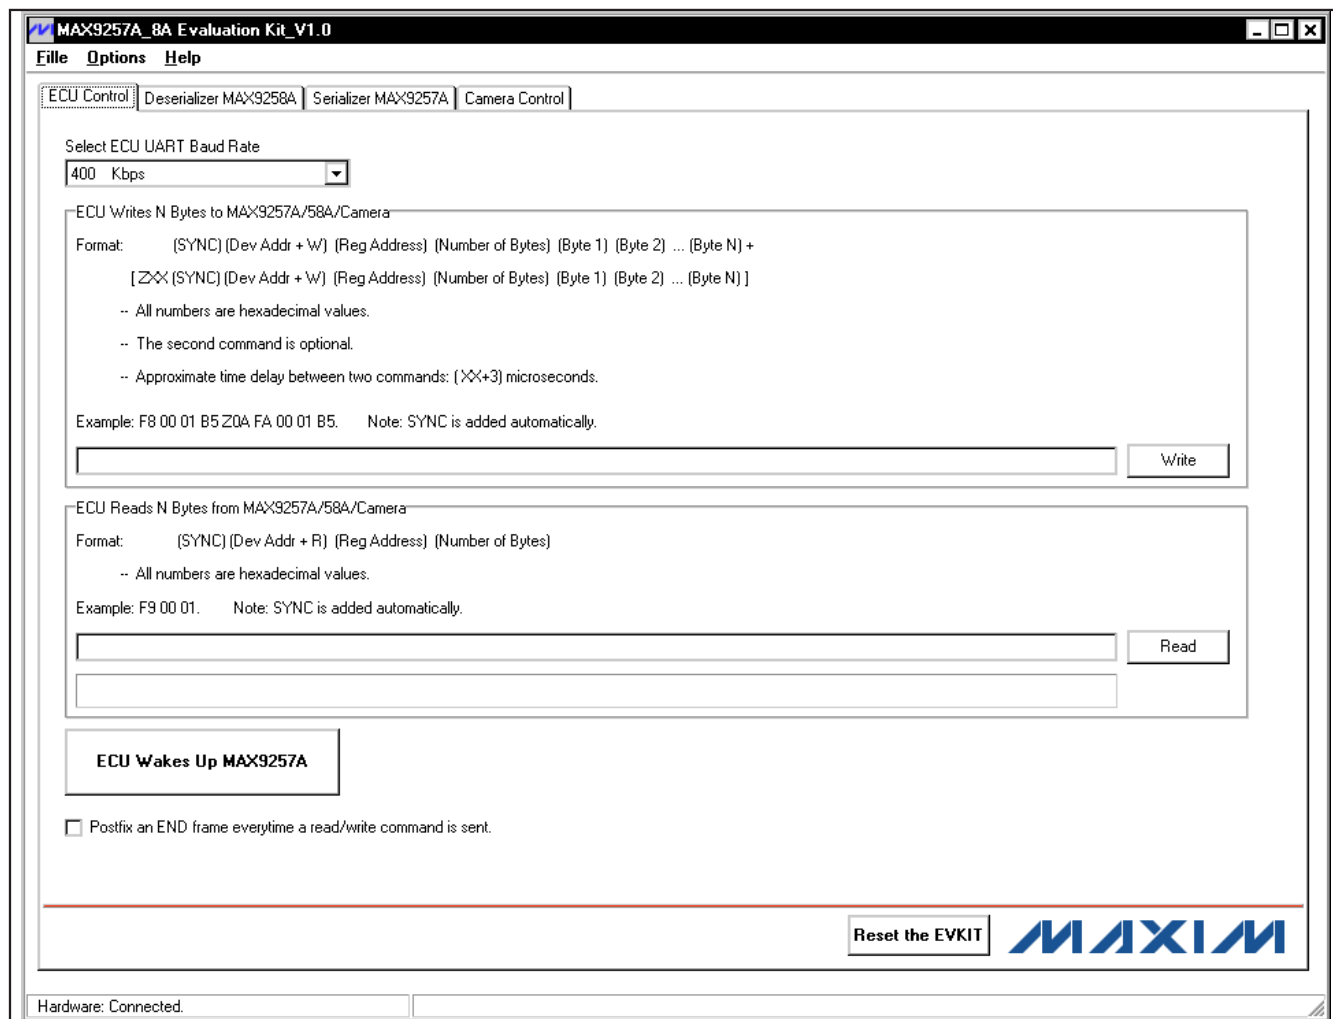

Figure 3. MAX9257A/MAX9258A Evaluation Kit Software—ECU Control Tab
- 14) Verify that the software main window shows up next (Figure 3).
The **ECU Control** tab sheet (Figure 3) lets the ECU configure the MAX9258A, MAX9257A, and the camera.
- 1) Start the program or press the **Reset the EVKIT** button on the **ECU Control** tab sheet (Figure 3).
- Start the program or press the **Reset the EVKIT** button on the **ECU Control** tab sheet (Figure 3).